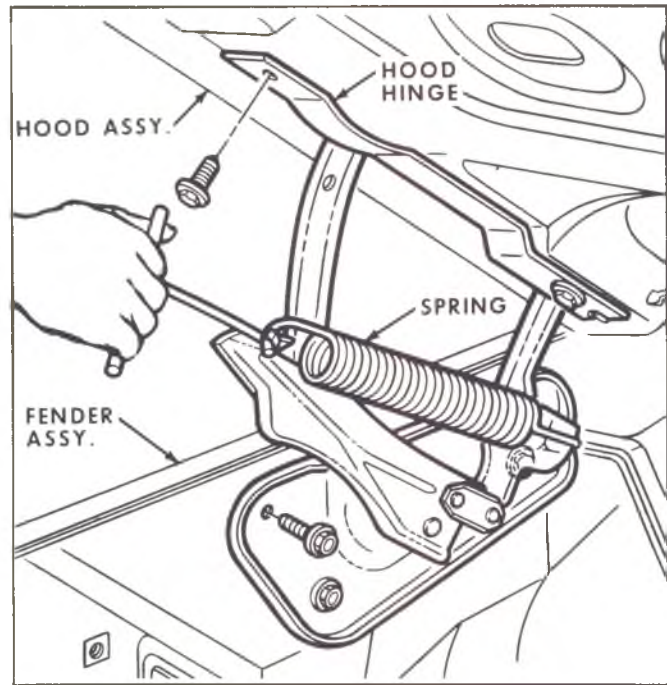

Fig. 2—Hood Hinge and Spring—CK Series
2. As shown in Figure 2, engage hooked end of tool to spring, then carefully pull forward to engage or disengage spring from hinge assembly.
#### Hood Hinge (Fig. 2)
### Alignment (Fig. 2)